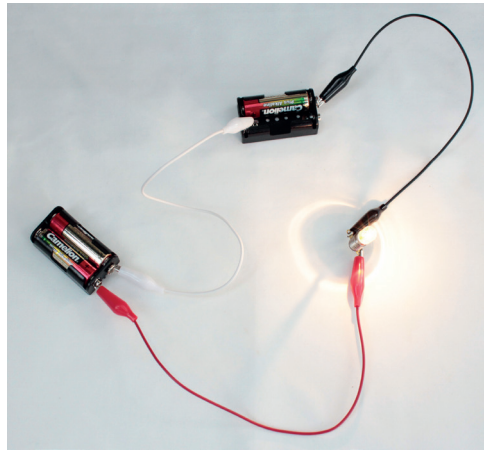

Figure 3: Three cells in series connected to a lamp
2. Figure 3 below shows three cells connected in series in a circuit. Draw a circuit diagram of the circuit.